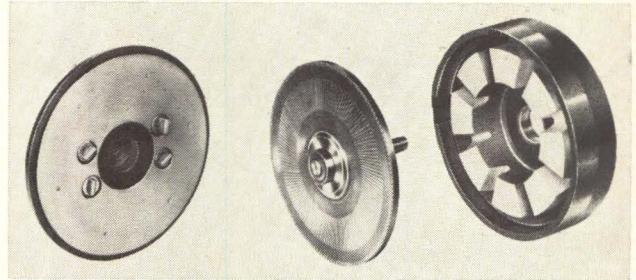
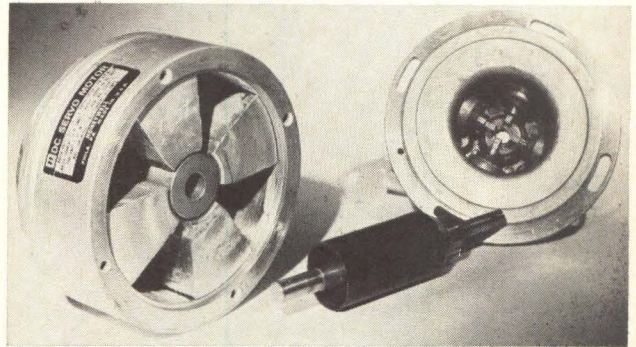

Fig. 2 Moving coil motor (disk).
Fig. 3 Moving coil motor (cylindrical).
The moving coil motor is a recent innovation(1) which provides the designer with a motor having several times the acceleration of earlier motors (150,000 to 200,000 radians per sec2 compared to 40,000 radians per sec2). Fig. 2 and 3 are photographs of two versions of the motor: Fig. 2 is a disk or "printed circuit" motor and Fig. 3 is a model having a cylindrical coil. In each model, the rotor does not contain any iron, resulting in a rotor having a low moment of inertia and low self-inductance.